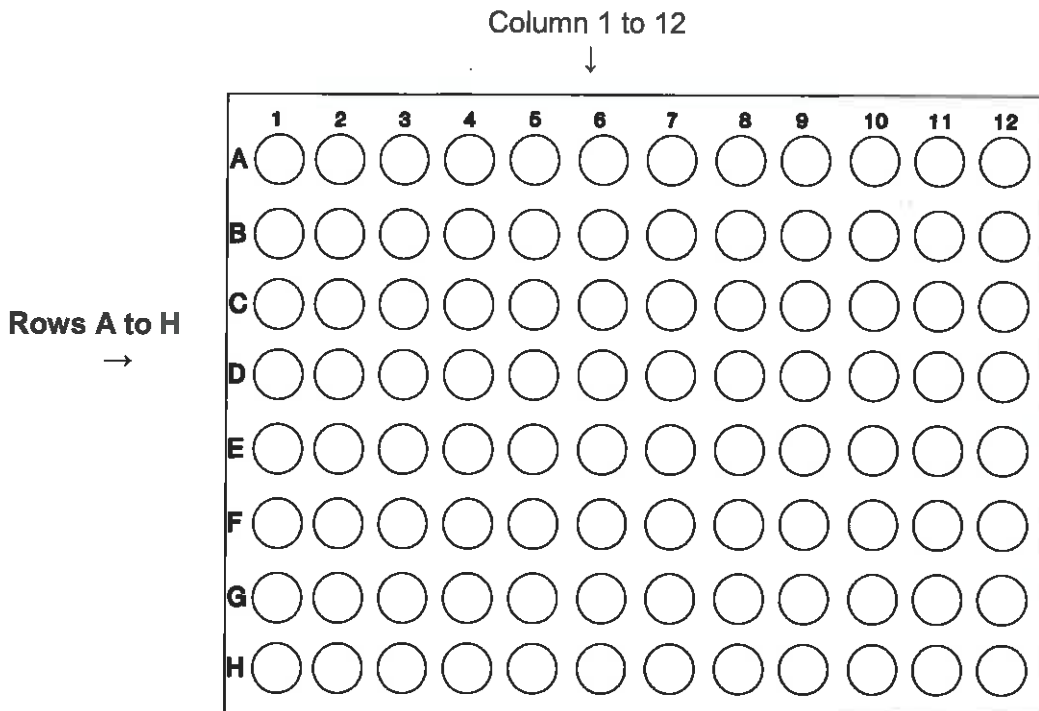

Figure 1. Orientation of the micro-titre plate.
- 1 Dispense 25 µl CFT buffer by using an 8-channel pipette into U-bottomed micro-titre plates, beginning with row D (column 1 – 8) and proceeding to row H (column 1-8). See Figure 1, for orientation of the plate.